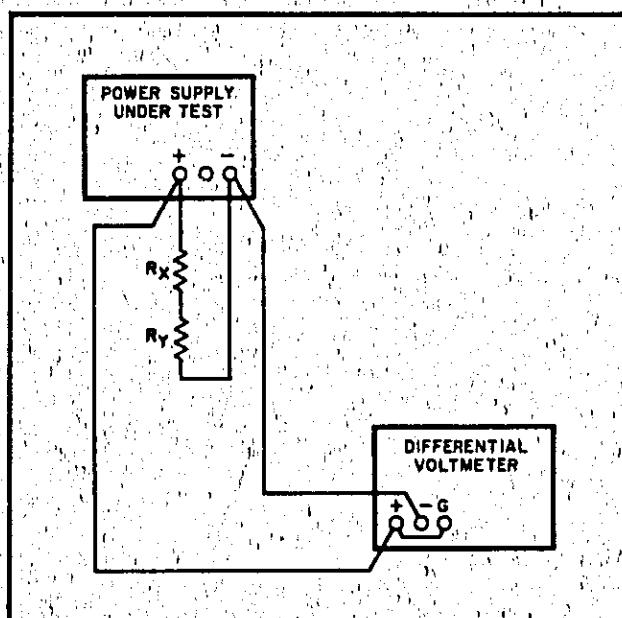

Figure 5-5. Load Regulation, Test Setup
- a. Connect test setup as shown in Figure 5-5.
- c. Connect test setup shown in Figure 5-5.
- a. Connect test setup shown in Figure 5-5.